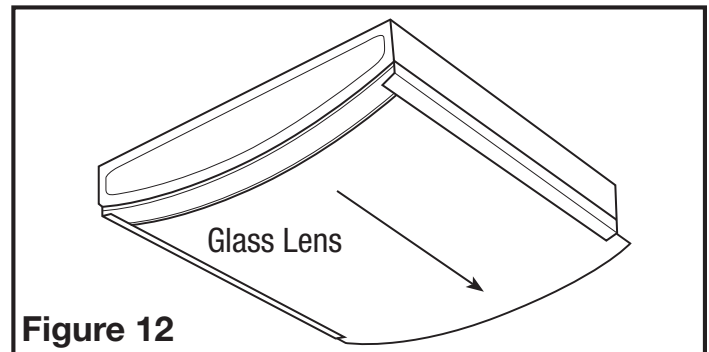

Figure 12
- AKLC70SLN, AKLC70SLW:** Slide the glass light lens out either side of the grill (Figure 12).